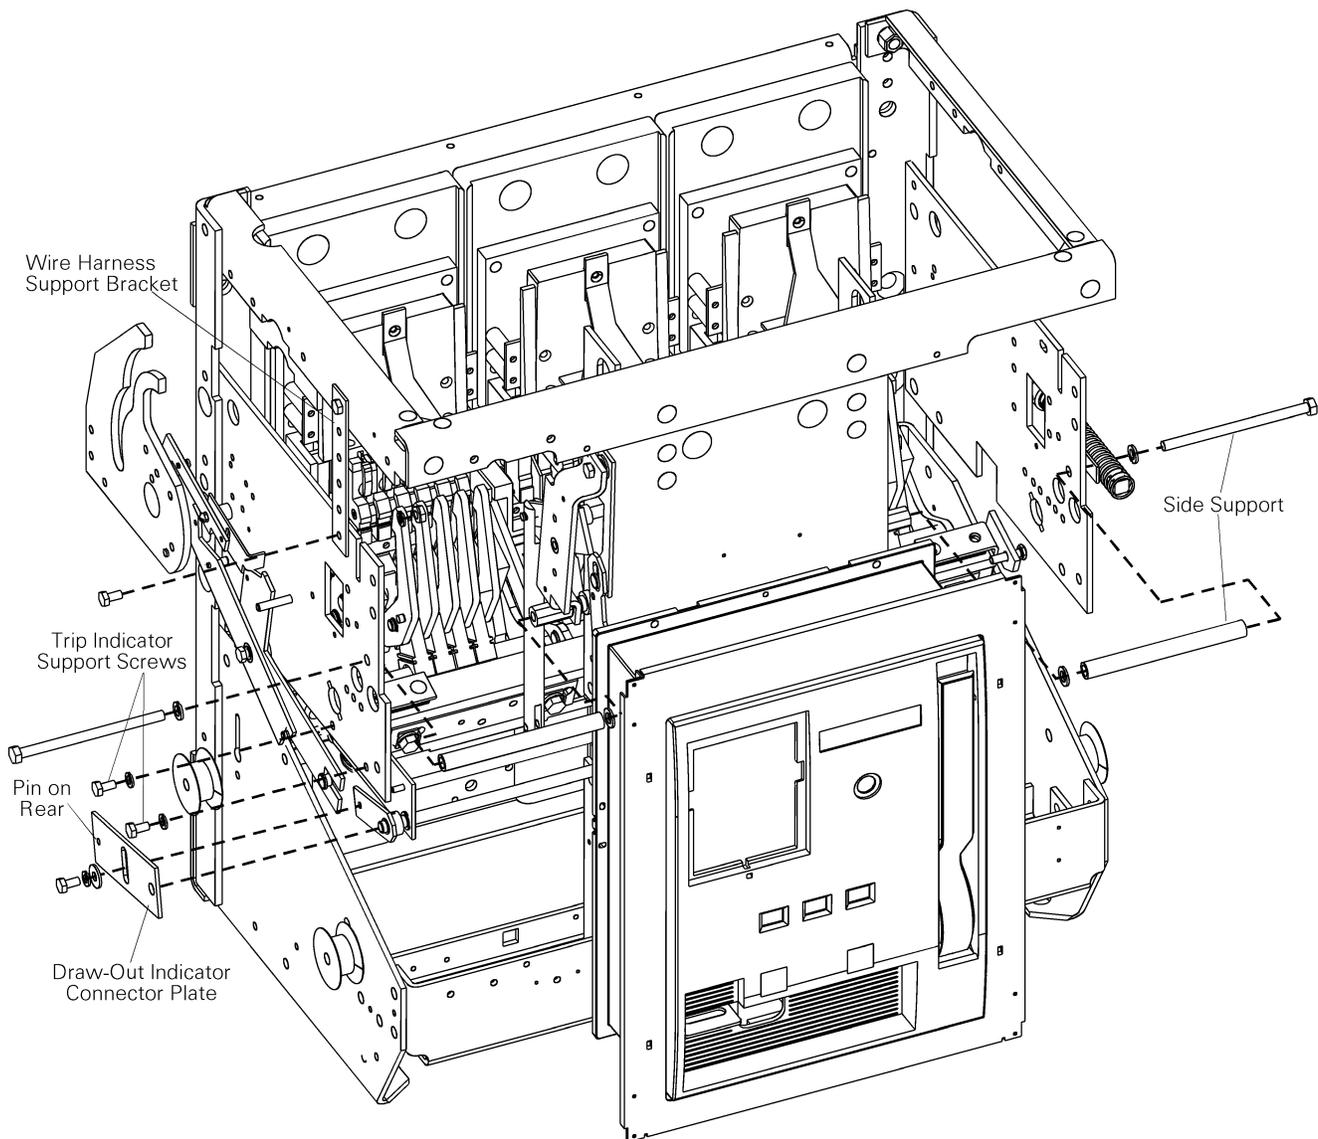

Figure 13. Removal of the position interlock and draw-out indicator support plate.
11. Remove the screw, lock washer, and nut attaching the harness support bracket to the back frame side plate, as illustrated in Figure 13.
3. Reattach the wire harness support bracket with the screw, lock washer, and nut, as illustrated in Figure 13.
6. Place the pin on the rear of the draw-out indicator connector plate into the open slot in the end of the draw-out indicator. Place the hole in the plate over the pin on the end of the shaft, as indicated in Figure 13. Place the screw, lock washer, and flat washer through the slot in the connector plate into the tapped hole as shown. To adjust the connector plate, back the plate with the spring against the stop screw, then tighten the screw on the connector plate.